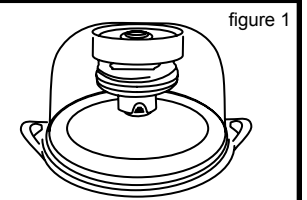

figure 1
**NOTE: FOR SHIPPING PURPOSES,** the AutoFresh Vacuum Dome’s Vacuum Base is placed onto the Dome upside down (figure 1). The Vacuum Base must be removed and turned as illustrated in the following instructions.